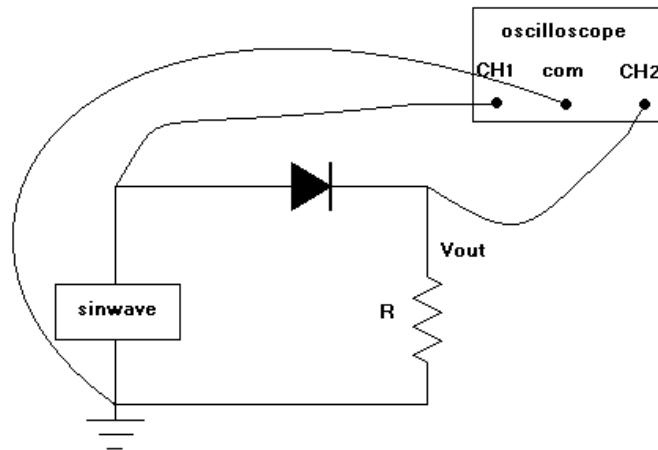
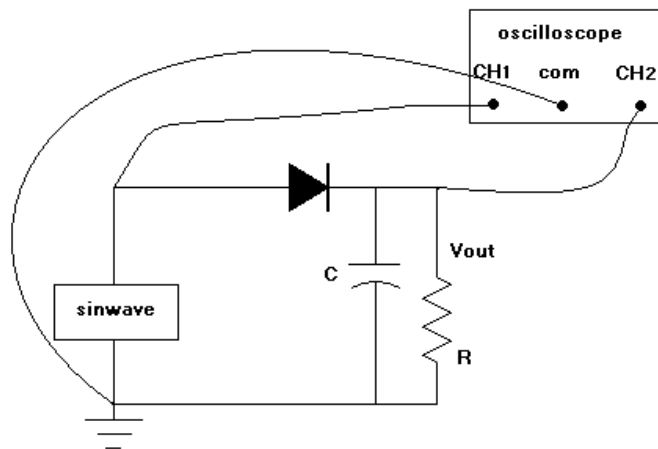

Figure 5.3
Figure 5.4
5. Connect the circuit in figure5.3.
1. For the circuit in figure 5.3, connect a capacitor in parallel with the resistor to get a circuit similar to figure 5.4.
1. Sketch the output waveform of the circuit in figure5.3
4. Sketch the output waveform of the circuit in figure5.3 if the diode polarity is inverted.
5. Sketch the output waveform of the circuit in figure 5.4